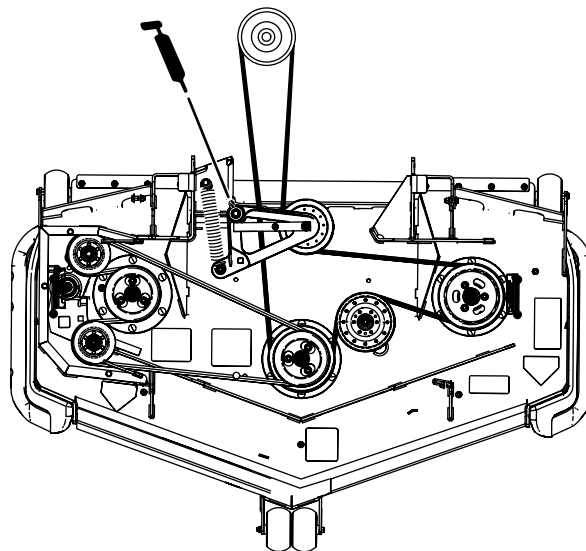

Figure 40
4. Grease the mower deck idler-pulley pivot until grease comes out the bottom (Figure 40).